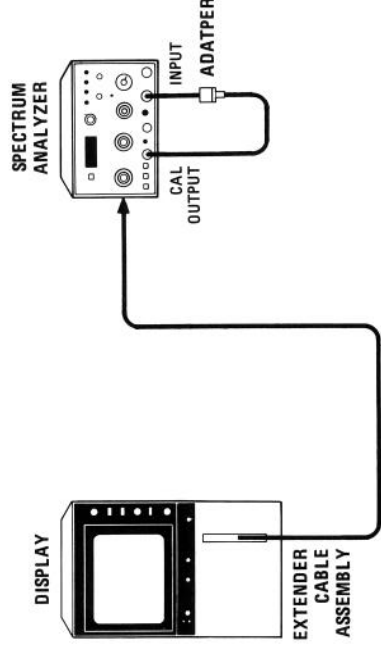

Figure 7-11. Crystal and LC Bandwidth Filter Adjustment Test Setup
2. Connect equipment as shown in Figure 7-11.